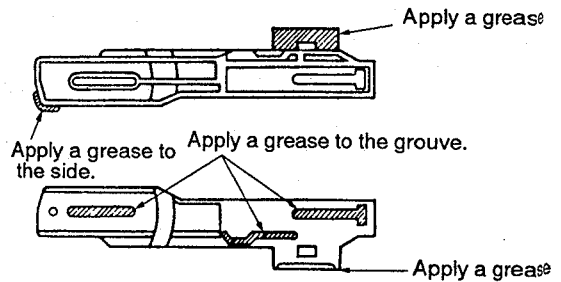

Fig. 12
- ③ Install the cam gear in the position where projection (B) of the cam gear comes to the front of the follow gear installation shaft..
- ① Grease the spring slanting cam. (Fig. 12)